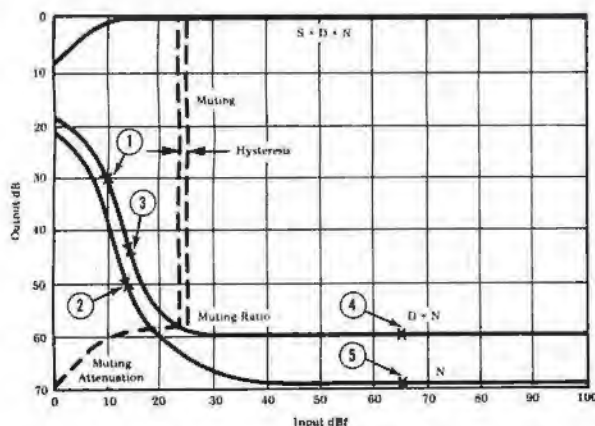

Fig. 3. Monophonic sensitivity curves.
**Curve Plotting.** Since signal strength, or more precisely the amount of signal power available to the tuner, is now to be expressed by a logarithmic function, semi-log graph paper is no longer needed. So, quieting and distortion curves can be drawn on ordinary (cartesian) graph paper. This is shown in Fig. 3, a sample set of Monophonic Sensitivity Curves. Note that "Muting Threshold," a newly required spec, is depicted on this graph (at about 25 dBf). Also shown are the "Muting Ratio" (not all muting circuits produce absolute silence between stations) and the "Hysteresis" effect (some circuits don't cut off the audio at exactly the same signal level that they turn it on).